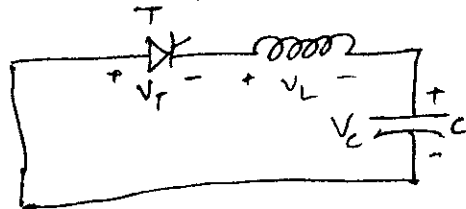

Fig. Q6 (c)
- c. In the circuit of Fig. Q6 (c) the capacitor is initially charged to a voltage of $V_c(0) = -500$ V. If $L = 15 \mu\text{H}$ and $C = 50 \mu\text{F}$ and the SCR is turned ON at $t = 0$. Calculate (i) the peak value of resonant current and (ii) the conduction time of thyristor. (04 Marks)